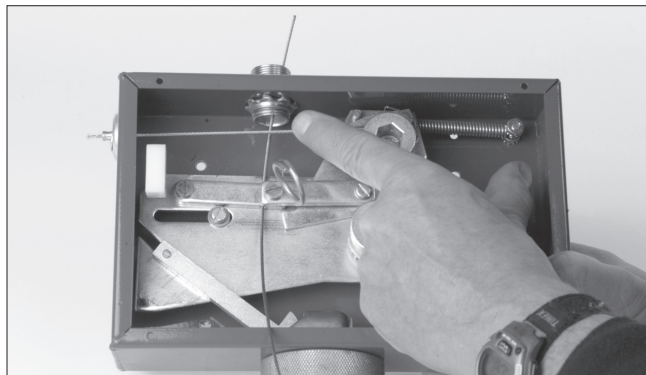

**FIGURE 18**
8. Tighten the strain relief nut onto the strain relief. See Figure 18.